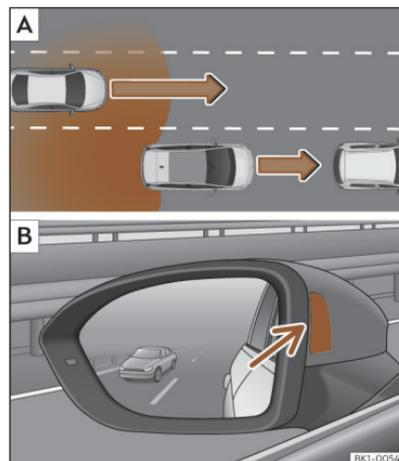
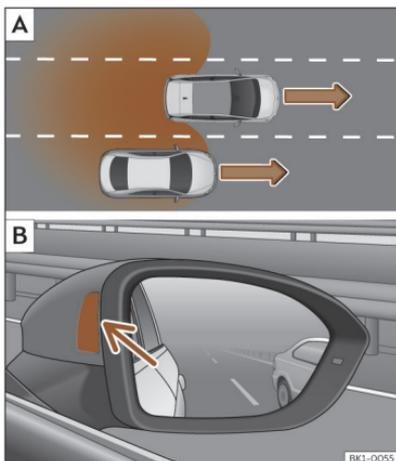

Fig. 139 Schematic diagram: **A** Overtaking with traffic behind the vehicle. **B** Side Assist indication on the left hand side.
Fig. 140 Schematic diagram: **A**
In the following situations, an indication will be displayed in the control lamp >>> **Fig. 139 B** (arrow) or >>> **Fig. 140 B** (arrow):
- When being overtaken by another vehicle >>> **Fig. 139 A**.
- When passing another vehicle >>> **Fig. 140 A** with a speed differential of approx. 10 km/h (6 mph). If the vehicle is passing at a considerably higher speed, no indication will be displayed.